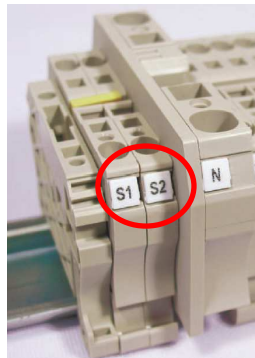

Fig. 5-2 .- CT and neutral connection terminals if required
- Check the regulator's  $\cos \varphi$  indication. If the indication is out of the range 0.5 to 1, it may be possible that the current transformer and / or the power supply to the regulator are improperly connected. Most of the regulators use only one current transformer. In this case, connect as per fig. 5-2 (place the current transformer on phase L1 and take the power supply voltage from phases L2 and L3)